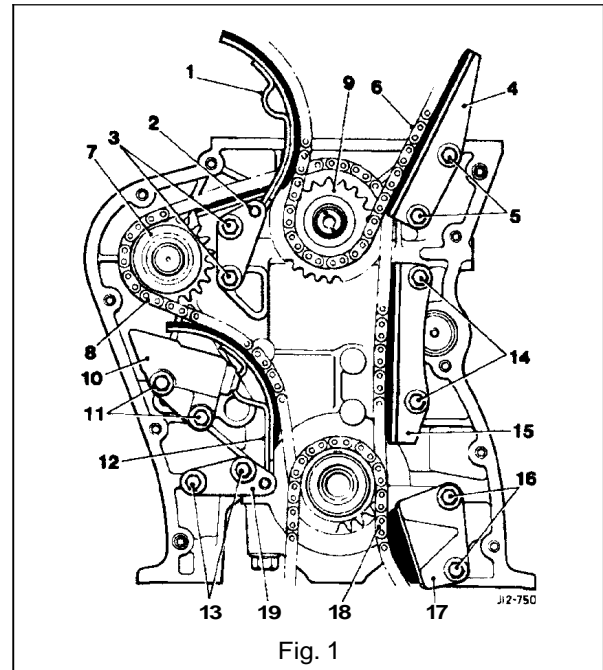

Fig. 1
- Remove the upper timing chain (6 Fig. 1) and remove the flanged bolts (3 Fig. 1) securing the tensioner pedestal.